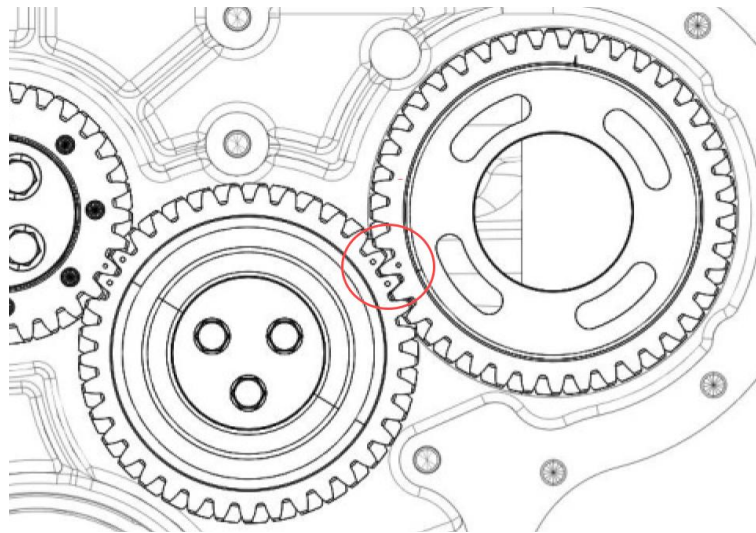

Figure 126.
8. Install the fuel injection drive gear with the pressure plate, ensure to align the single timing mark between the two-timing marks of the idler gear (Figure 126).